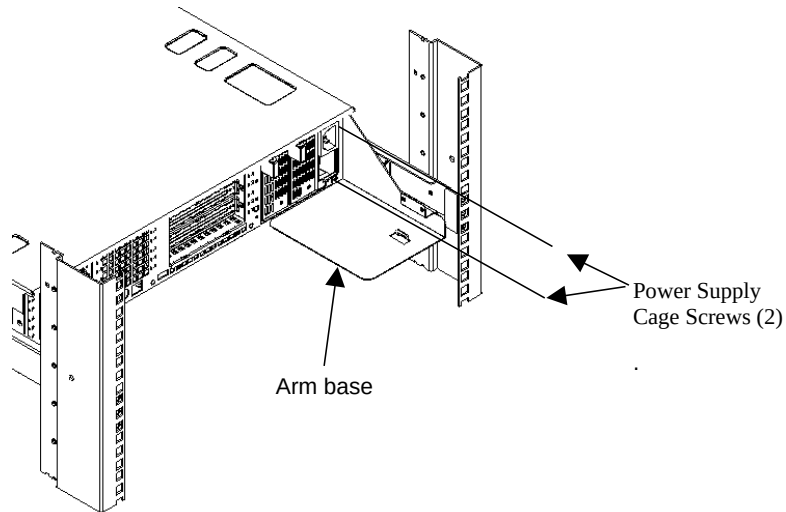

Figure 2-21. Attaching the Arm Base
1. Attach the Arm Base to the rear of the power supply cage using the two screws that secure the power supply cage to the chassis. See Figure 2-21.